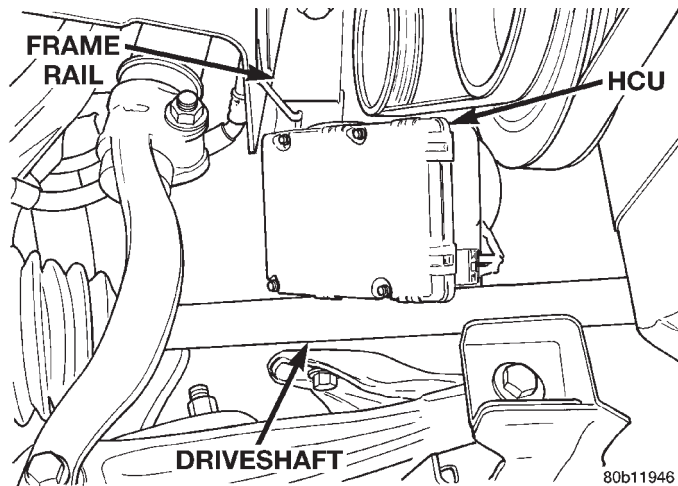

Fig. 34 ICU Remove And Install
(16) Remove the ICU from its mounting bracket. Then remove the ICU from the vehicle by pulling it out through the area between the right drive shaft and frame rail (Fig. 34).
(17) Refer to INTEGRATED CONTROL UNIT in DISASSEMBLY AND ASSEMBLY within this section to separated the CAB from the HCU.